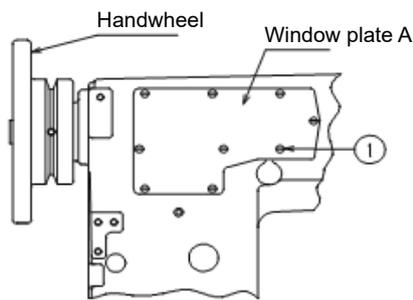

Fig. 1
Loosen the window plate A setscrews ① (eight places) and the window plate B setscrew ② (one place) on the counter-operator side of the arm to remove the window plates A and B. (Figs. 1 and 2)
Secure the window plate A to the counter-operator side of the arm with the setscrews ① (eight places) and the window plate B with the setscrew ② (one place). (Figs. 1 and 2)